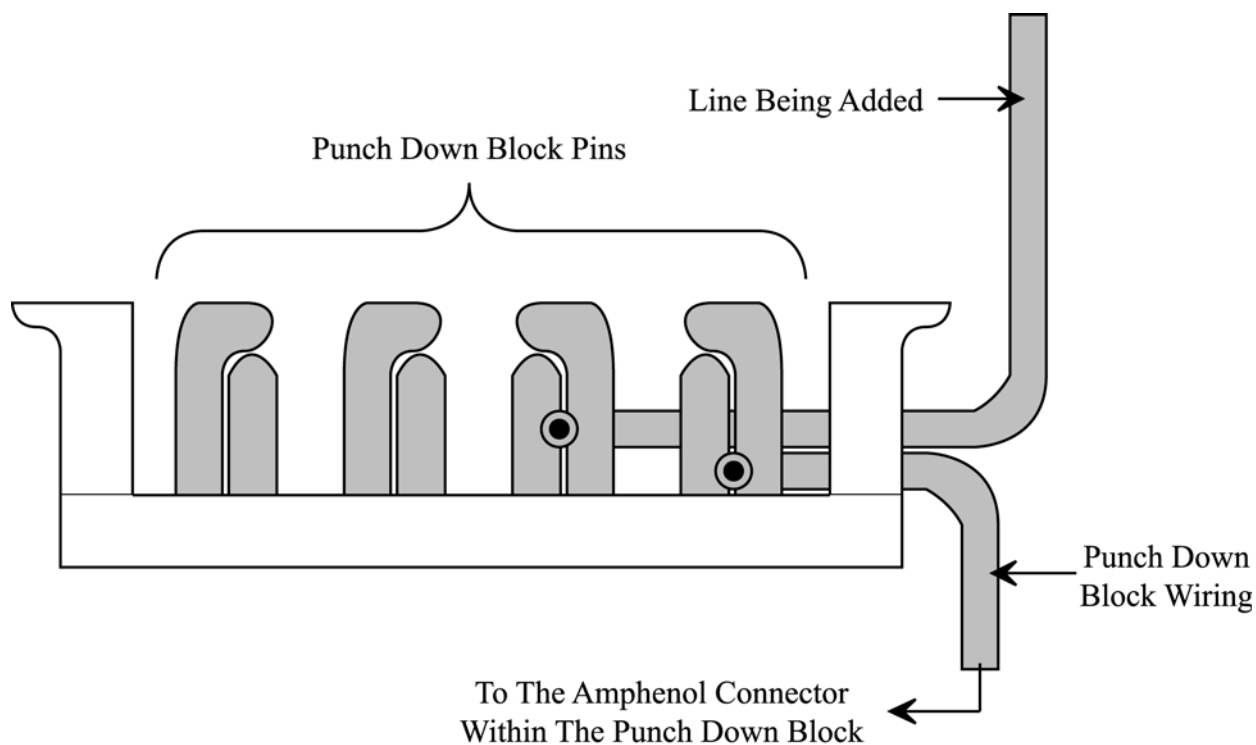

Figure 7: Inserting the Punch Down Block
- Connect the incoming TIP line (from the telephone company) to the appropriate split-pin connector on the RJ-71C punch down block (see Table 2 on page 10 and Figure 7 on page 12).
- Connect the incoming RNG line (from the telephone company) to the appropriate split-pin connector on the RJ-71C punch down block (paired with the incoming TIP line – see Table 2 on page 10 and Figure 7 on page 12).
- Connect the outgoing TIP line (to the house telephone) to the appropriate split-pin connector on the RJ-71C punch down block (see Table 3 on page 11 and Figure 7 on page 12).
- Connect the outgoing RNG line (to the house telephone) to the appropriate split-pin connector on the RJ-71C punch down block (paired with the outgoing TIP line – see Table 3 on page 11 and Figure 7 on page 12).